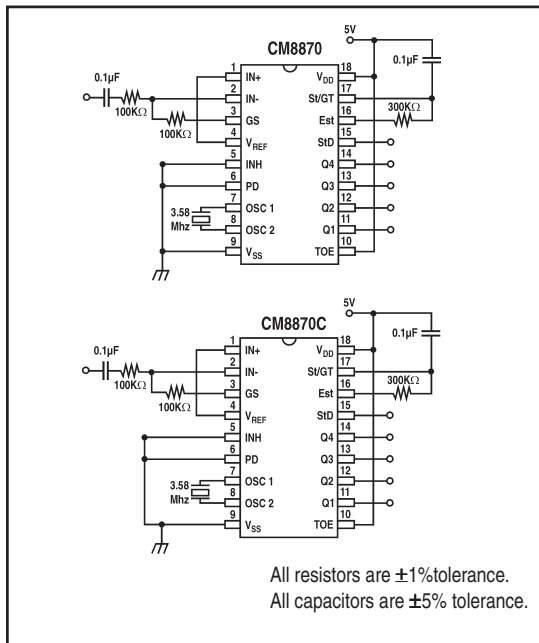
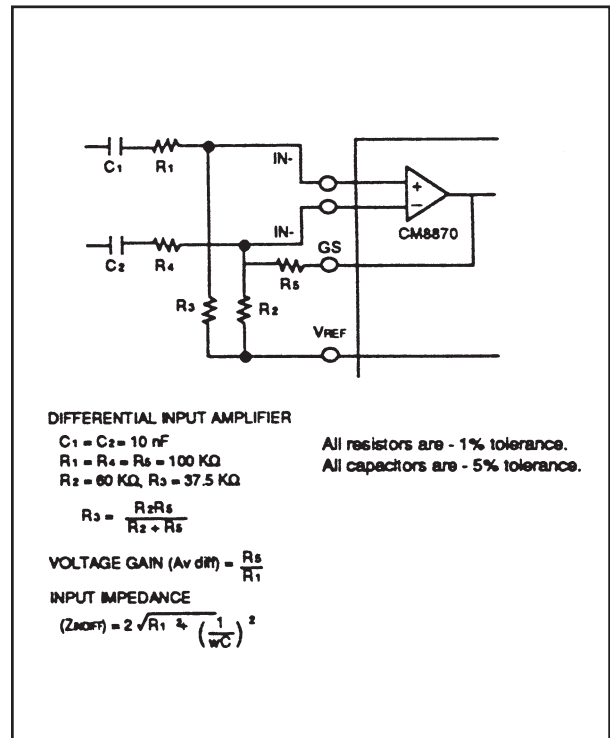

Figure 1.
Figure 6. Differential Input Configuration
- Referenced to Figure 1. Input DTMF tone level at -28 dBm.
The value of  $t_{DP}$  is a parameter of the device and  $t_{REC}$  is the minimum signal duration to be recognized by the receiver. A value for C of 0.1 uF is recommended for most applications, leaving R to be selected by the designer. For example, a suitable value of R for a  $t_{REC}$  of 40 milliseconds would be 300K. A typical circuit using this steering configuration is shown in Figure 1. The timing requirements for most telecommunication applications are satisfied with this circuit. Different steering arrangements may be used to select independently the guardtimes for tone-present ( $t_{GTP}$ ) and tone absent ( $t_{GTA}$ ). This may be necessary to meet system specifications which place both accept and reject limits on both tone duration and interdigit pause.
In a single-ended configuration, the input pins are connected as shown in Figure 1, with the op-amp connected for unity gain and VREF biasing the input at  $\frac{1}{2} V_{DD}$ . Figure 6 shows the differential configuration, which permits the adjustment of gain with the feedback resistor R5.